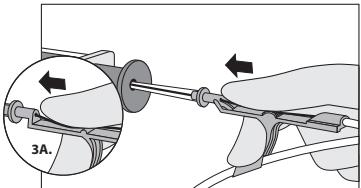

Figure 3
- If using Arrow GlideWheel Advancer, advance guidewire through the Arrow Rauerson Syringe or through the introducer needle by pushing advance wheel and guidewire forward (refer to Figure 3). Continue until guidewire reaches desired depth.